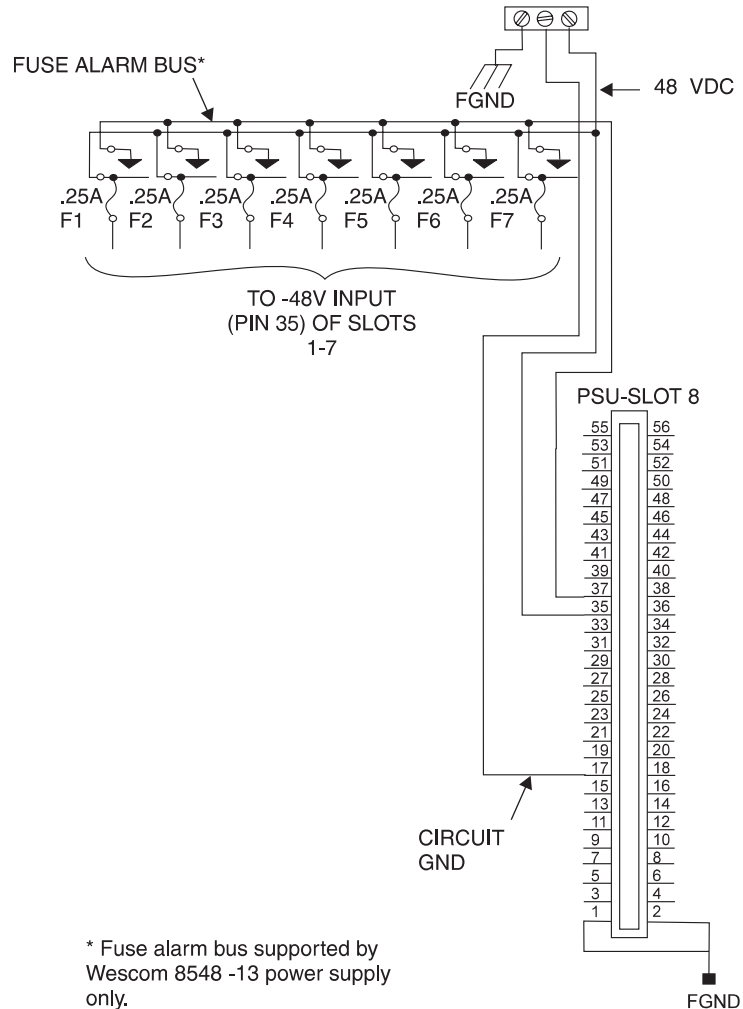

Figure 10. (-48V) Local Power Option Connections
6.09 Local Power Application. Local power can be applied to the HRE-427 backplane from an AC to 48 volt DC power supply module located in the slot labeled PSU. The Westel 6060-03 (2 AMP), Wescom 8548-13 or equivalent 400 mechanic power supplies can be used. See HRE-427's power supply bus circuit shown in Figure 10 on page 15. The Wescom 8548-13 power supply has an external alarm (EXT ALM) LED, which connects to the fuse alarm contact of all seven-slot, fuses (see Figure 10 on page 15). This LED lights RED if any of the slots fuses opens.